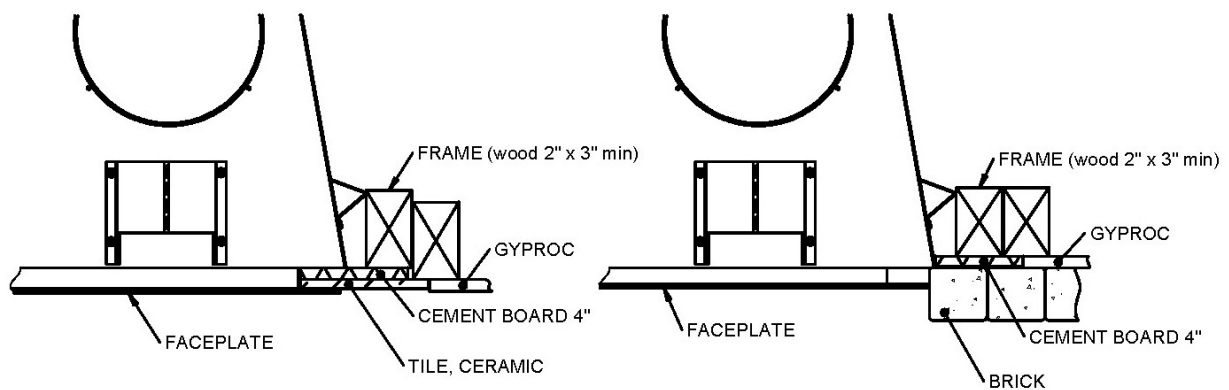

Figure 18
1. Materials directly in contact with the faceplate of the fireplace, especially the vertical and horizontal surround, must be non-combustible and have the minimal dimensions as shown on figure 18.